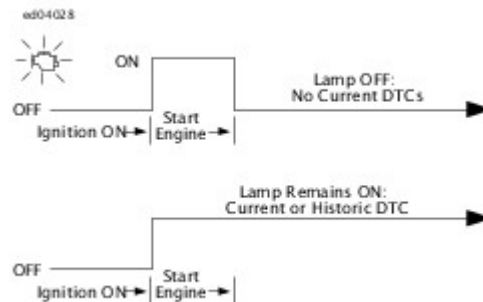

Figure 4. Check Engine Lamp
- See **Figure 4**. The lamp turns off. This indicates there are no current or historic stored DTCs currently detected by the ECM.